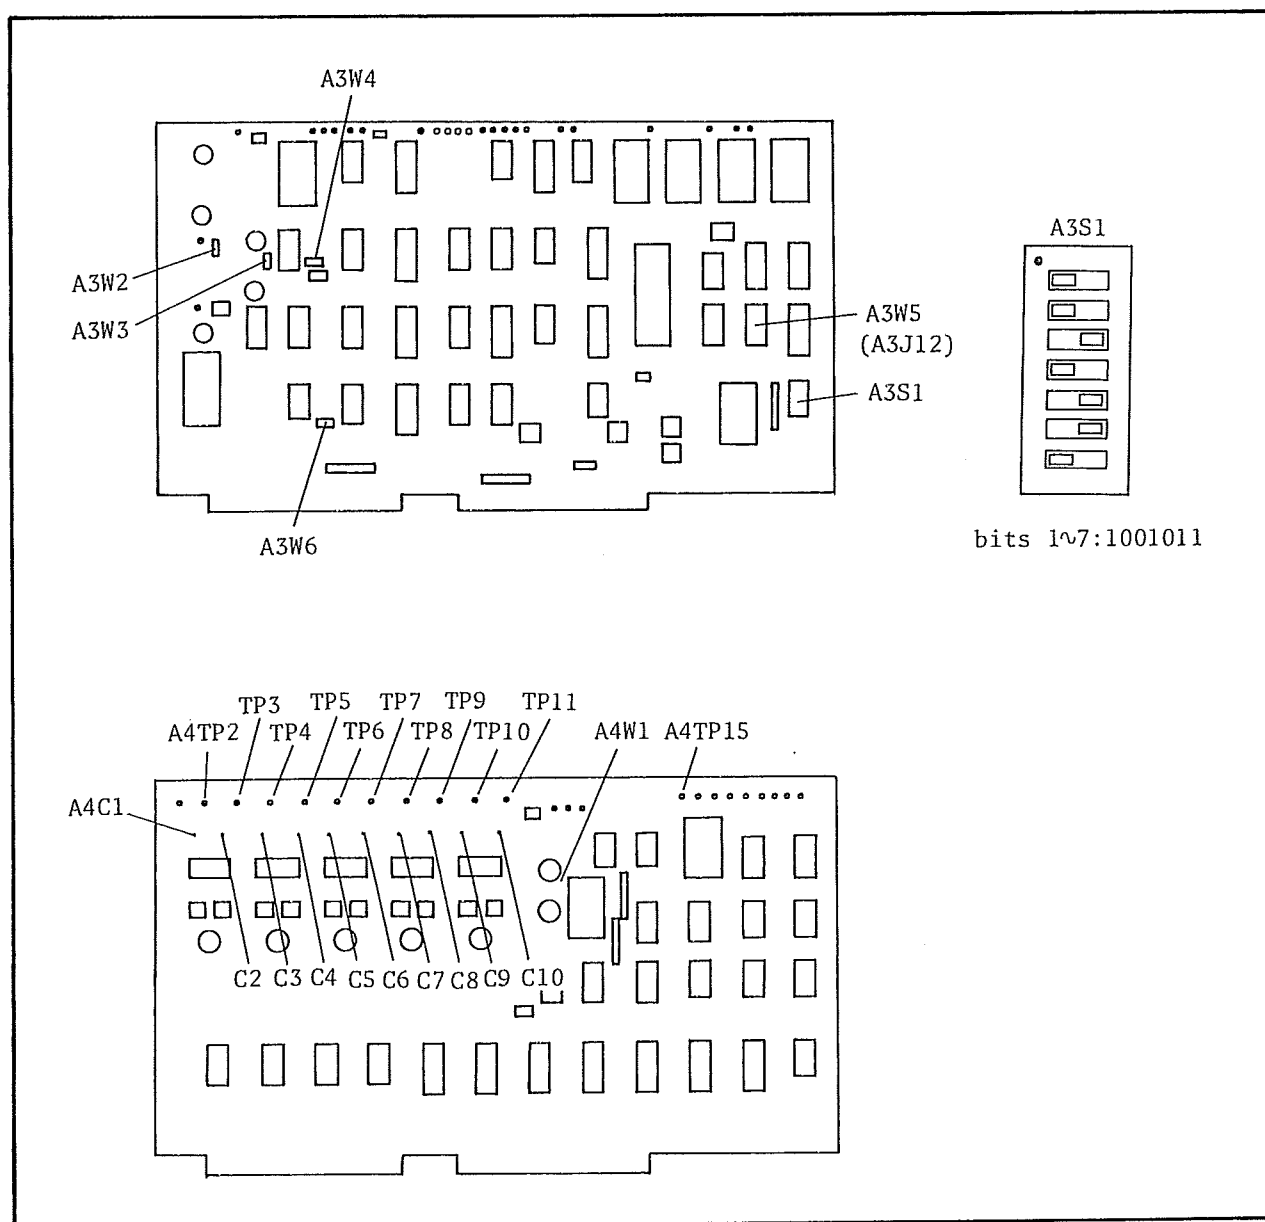

Figure 5-13. Test Point Locations.
1. Remove the A3 SMU Control and A-D Converter Board and the A4 D-A Converter Board, and set A3S1 (SW1) to 1001011. See Figure 5-13 for the location of A3S1.
2. Verify that jumpers A3W2 through A3W6 and A4W1 (see Figure 5-13) are set to N (Normal Mode).
4. Connect the channel A or B input to A4TP2 and the EXT TRIGGER input to A4TP15 (see Figure 5-13 for the locations). Obtain channel A or B input GND (ground) from A4TP13.